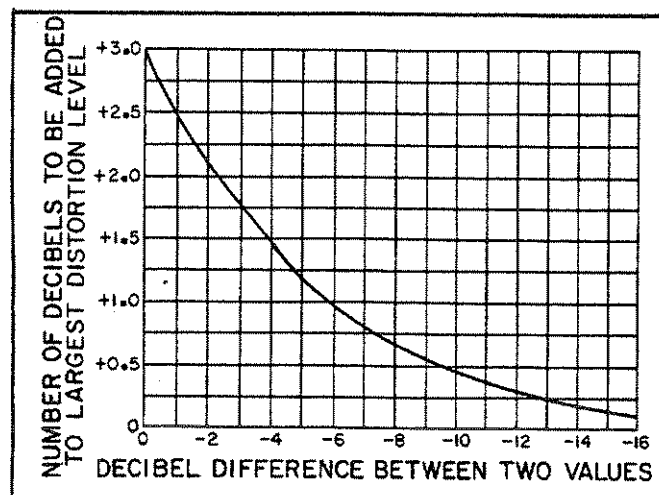

Figure 4-3. Logarithmic Addition of Harmonic Components.
g. Calculate the Total Harmonic Distortion using the graph shown in Figure 4-3. As an example—If the amplitude of the second harmonic is -110 dB and the third harmonic amplitude is -114 dB the dB difference between the two is -4 dB. Locate this number on the horizontal axis of the graph. The -4 line intersects the curve at approximately the $+1.5$ level on the vertical axis. The total harmonic distortion is therefore the amplitude of the largest harmonic (second harmonic) plus the number determined on the vertical axis (-110 dB $+1.5$ dB = -108.5 dB).